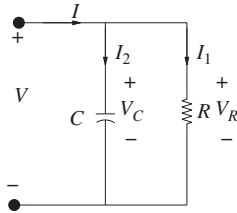

Figure P5.28 A current divider circuit for problems P5-28 and P5-29.
- 5-28.** In the current divider circuit shown in Fig. P5.28, the sum of the current phasors I_1 and I_2 is equal to the total current phasor I (i.e., $I = I_1 + I_2$). Suppose $I_1 = 1 \angle 0^\circ$ and $I_2 = 1 \angle 90^\circ$, both measured in mA.
- 5-29.** In the current divider circuit shown in Fig. P5.28, the currents flowing through the resistor I_1 and capacitor I_2 are given by